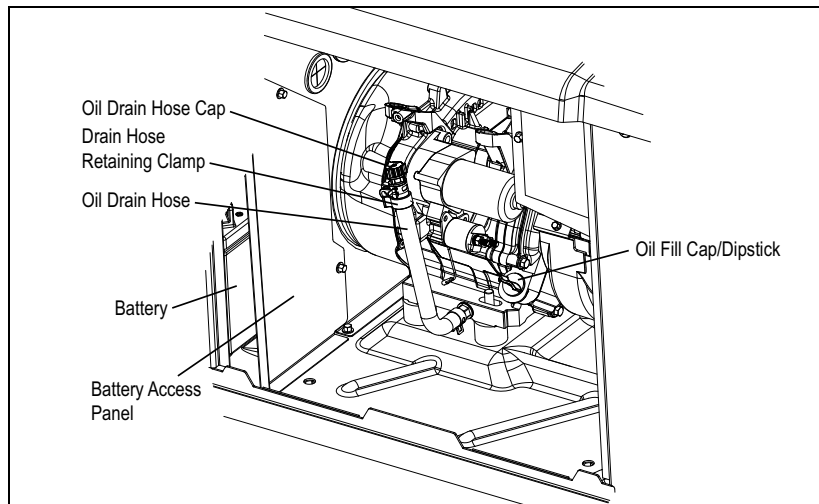

Figure 4-3: Oil Drain Location
4. Remove the drain hose from the retaining clamp and direct the hose end into a suitable container. See Figure 4-3.